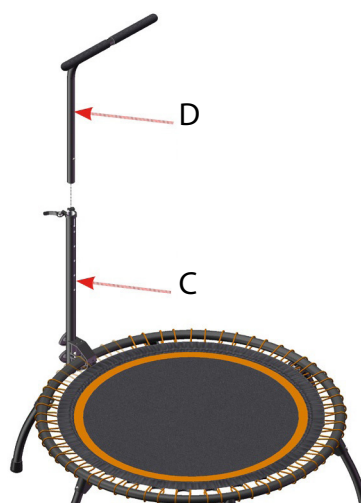

Fig. 12
Insert the adjustable tube (D) into the support tube (C) (see fig. 12).
① NOTICE